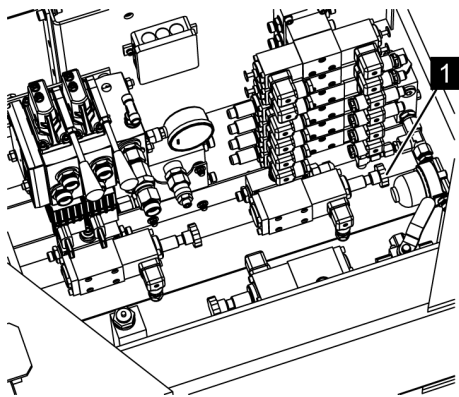

Fig. 113: Shuttle valve
4. → For outrigger operation, lock the shuttle valve (Fig. 113/1).